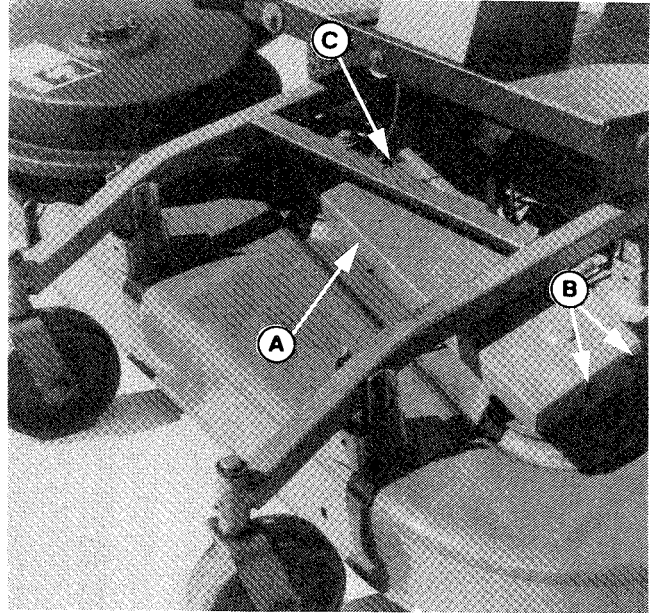

Figure 11.
20. Install the new belt cover ~~bracket~~ (A, figure 11) with two capscrews (B, removed in step 2) on lift end and ~~new capscrews~~, lockwashers, and nuts on right side.